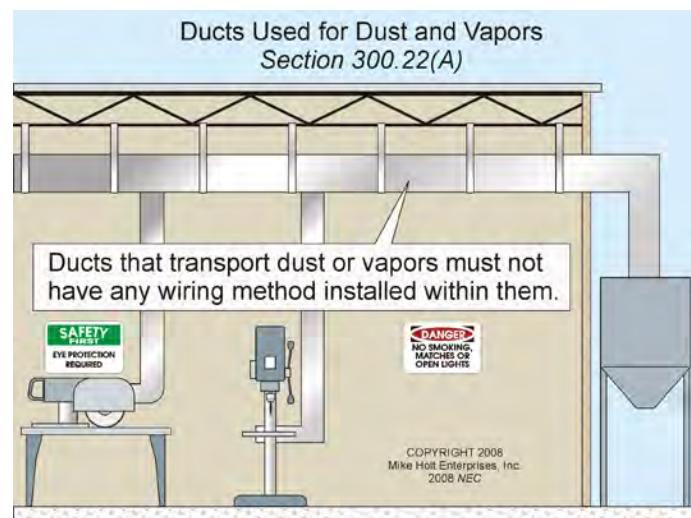

Figure 300-41
(A) Ducts Used for Dust, Loose Stock, or Vapor. Ducts that transport dust, loose stock, or vapors must not have any wiring method installed within them. **Figure 300-41**